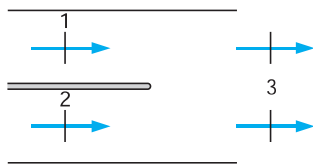

FIGURE P6.99
- 6.99** To keep a jet engine cool, some intake air bypasses the combustion chamber. Assume that 2 kg/s of hot air at 2000 K and 500 kPa is mixed with 1.5 kg/s air at 500 K, 500 kPa without any external heat transfer, as in Fig. P6.99. Find the exit temperature using constant heat capacity from Table A.5.